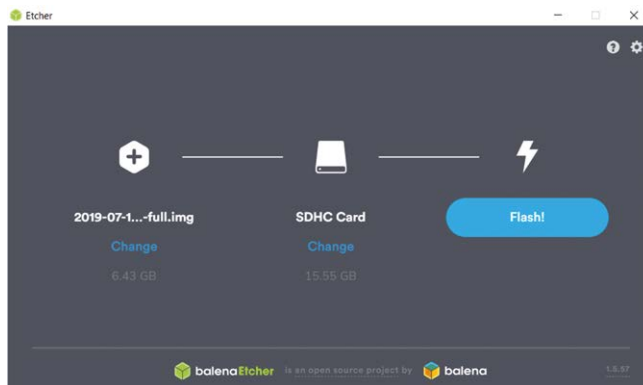

Figure 2.3 Click Flash to flash the disk image
- Click **Flash** (see Figure 2.3). This may take several minutes, wait until it is finished. The program will then validate and unmount the micro SD card. You can remove your micro SD card after it is unmounted.